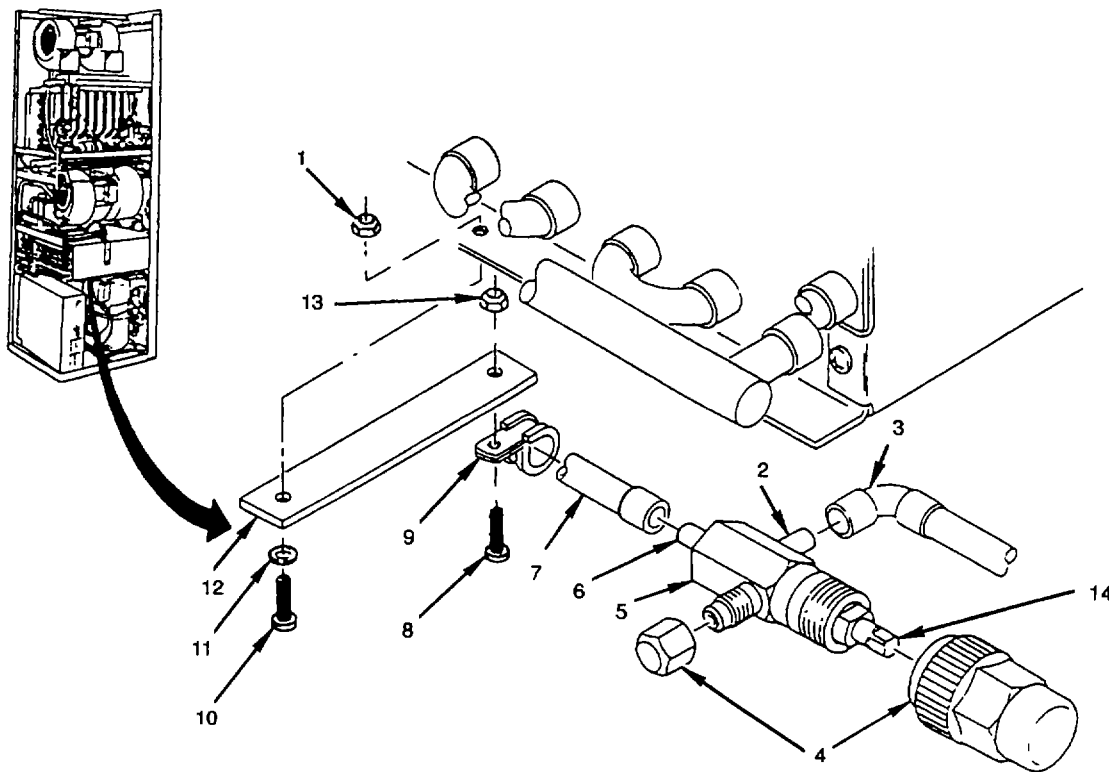

Figure 5-16. Hot Gas Bypass Service Valve (V7)
- (1) Disconnect air conditioner input power at source; and
- (2) Remove compressor section panel (paragraph 4.24)
- a. Check for evidence of leaks or damaged lines, and loose or missing mounting hardware (see fig 5-16)
- b. Remove valve caps (4).
- c. Remove screw (10), flat washer (11), locknut (1), and bracket (12).
- d. Remove locknut (13), screw (8) and clamp (9)
- e. Debraze tubing (3) and (7) at Joints (2) and (6) (paragraph 5.12)
- f. Remove hot gas bypass service valve (5).
- a. Position hot gas bypass service valve (5) in unit